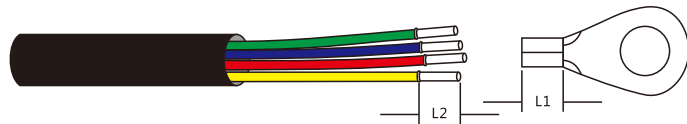

Figure 3.12 Strip AC cable
A) If using multi conductor cables, strip the end of AC cable outer insulating jacket about 3 inches. Strip the end of each wire . (as shown in figure 3.12)